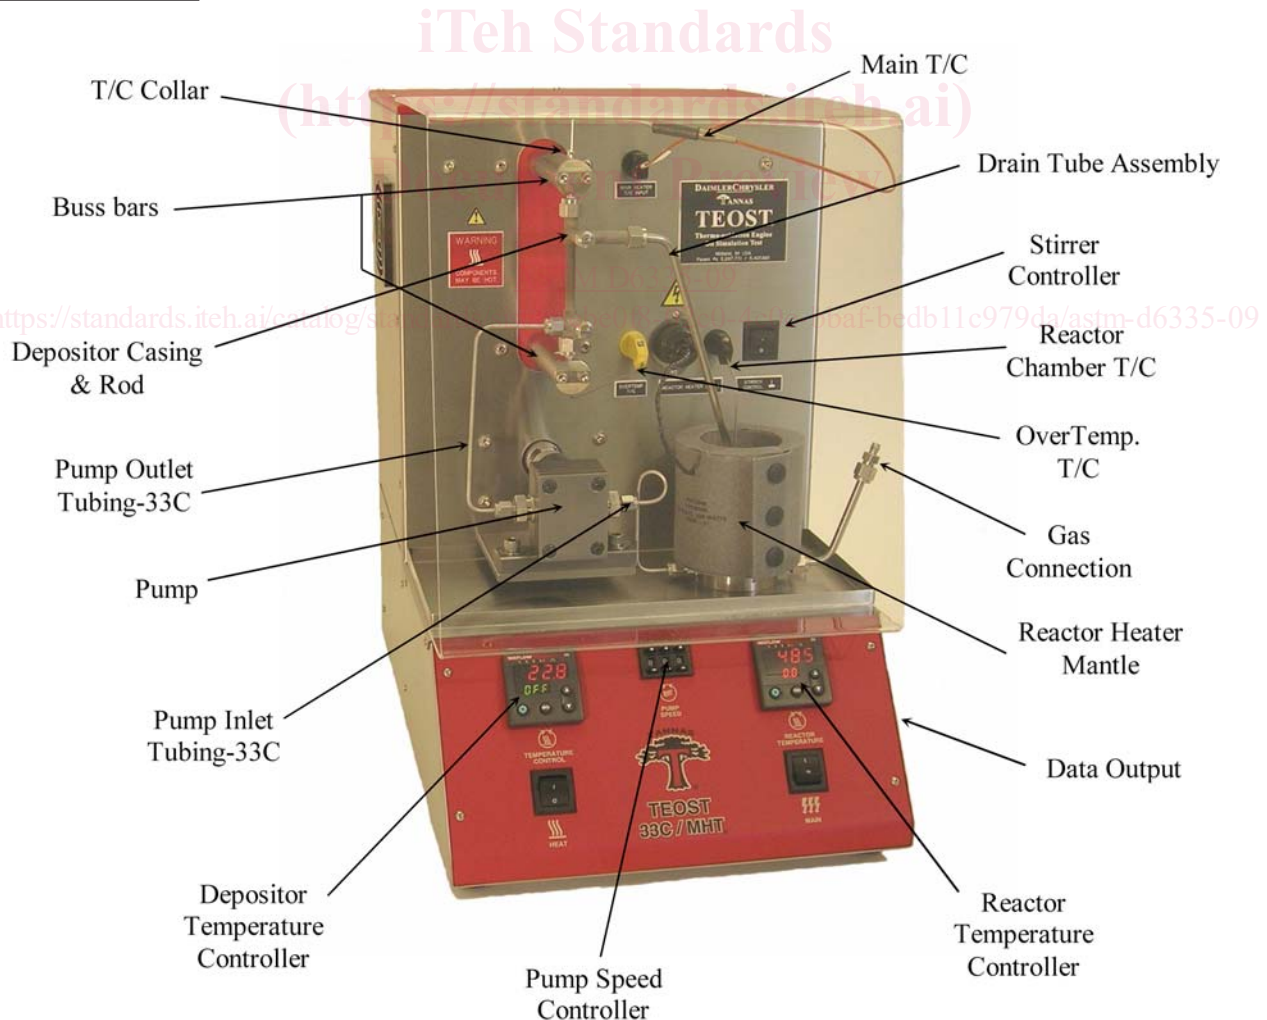

FIG. 1 Thermo-oxidation Engine Oil Simulation Test (TEOST)
5.1 Thermo-oxidation engine oil simulation test (TEOST) test instrument.⁴ See Fig. 1.